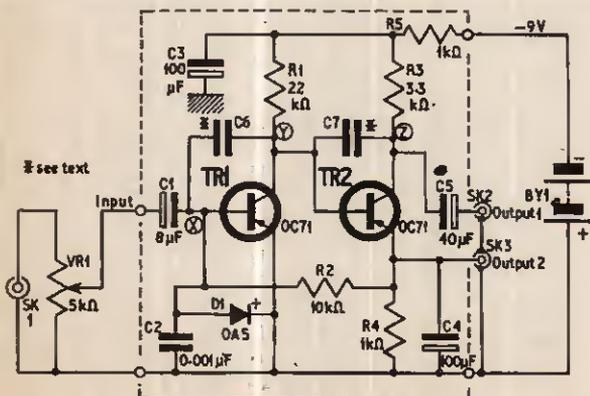
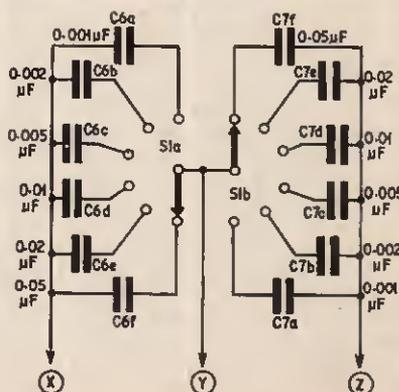
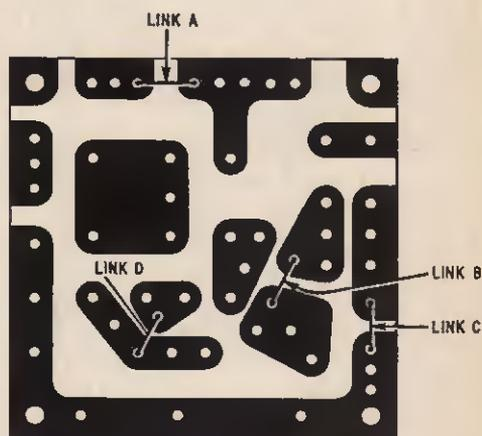
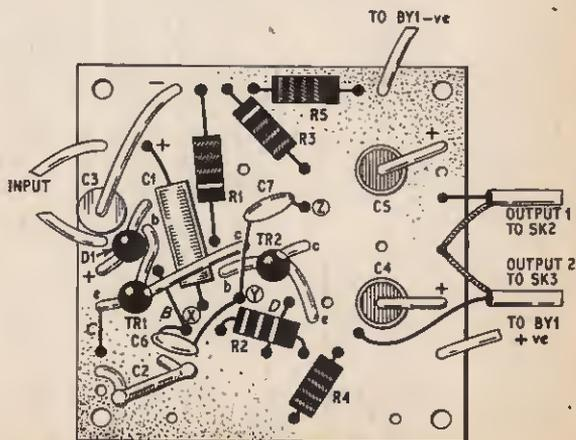

Fig. 1. Circuit diagram of the pre-amplifier modified to form a bass booster
Fig. 2. Capacitors C_6 and C_7 can be replaced by a stepped control connected to (X), (Y), (Z) on the pre-amplifier
Fig. 4. Basic pattern of the printed circuit board. In this circuit links B, C, and D only are used. Link A is replaced by resistor R5
Fig. 5. Layout of components on the printed circuit board
Fig. 1 below shows the circuit of the pre-amplifier with two feedback capacitors C_6 and C_7 added. Different values of capacitor may be used for different degrees of bass boost; if only a small amount of boost is required C_6 could be $0.005 \mu\text{F}$ and C_7 should be omitted. A larger degree of boost is achieved when C_6 is $0.01 \mu\text{F}$ and C_7 (also $0.01 \mu\text{F}$) is inserted. The bass can be boosted further by doubling these values so that C_6 and C_7 are $0.02 \mu\text{F}$ each.
It may be preferable to fit switched variable bass boost control. Here the circuit is basically the same, but C_6 and C_7 are replaced by the network shown in Fig. 2. This is easily made up on a two-pole, six-way rotary wafer switch $S1$ and connected to the pre-amplifier at points (X), (Y), and (Z). Figs. 1 and 5 show the appropriate positions.
Fig. 4 shows the basic pattern of the printed circuit board full size. The link wires at positions B, C and D only are used. Components for the circuit in Fig. 1 are mounted on the board as shown in Fig. 5.
If C6 and C7 are replaced by the stepped control (Fig. 2) lead out wires should be connected at points (X), (Y), and (Z) for linking the control. ★